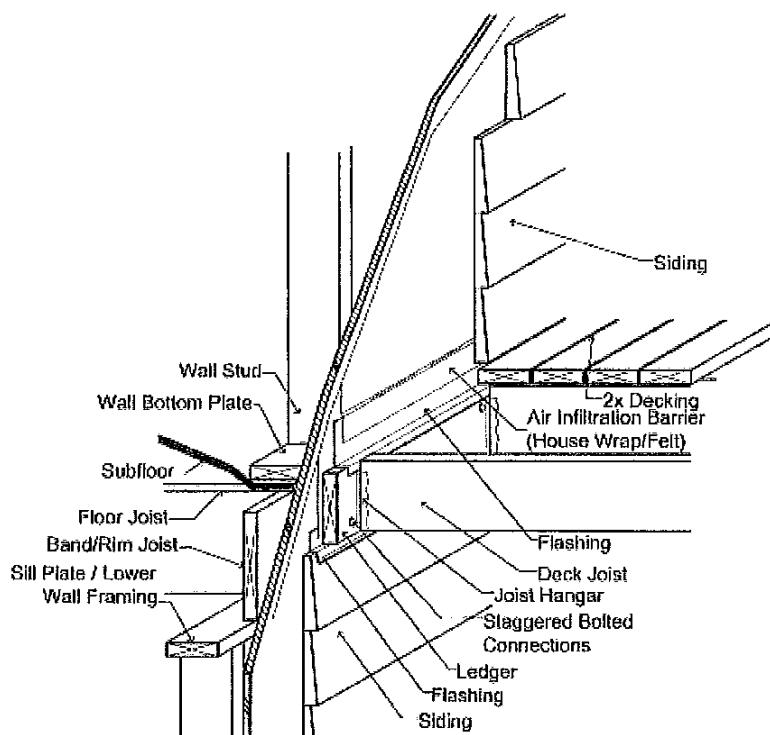

Figure 3: Deck Attachment Isometric
- Required **Elevations and Structural Details** (See Figure 3 for structural details and Figure 3.1 for Span Table/Footing Schedule):